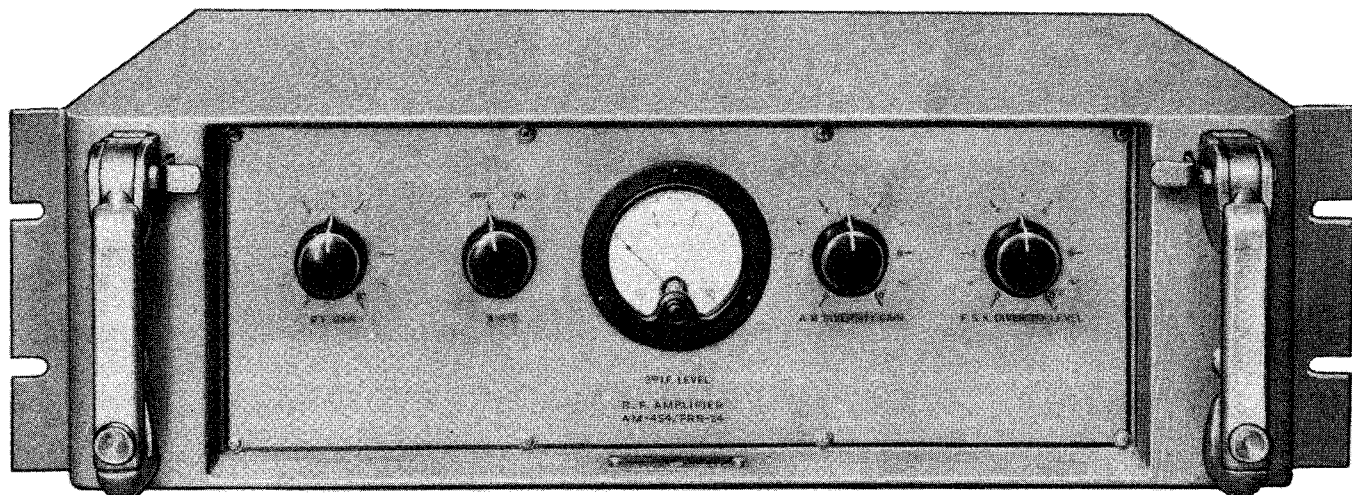

Figure 1-10. R.F. Amplifier AM-454/FRR-24
(5) R.F. AMPLIFIER AM-454/FRR-24. (See Figures 1-10 and 1-11).—The major portion of the receiver gain is provided by this unit without adding appreciably to the selectivity. This unit operates at 50 kilocycles and receives its input signal voltage from Filter Assembly F-99/FRR-24. The second intermediate frequency is produced at the output of the second heterodyne frequency converter stage located in the Frequency Converter CV-126/FRR-24. The desired 50-kilocycle selectivity characteristic is provided by the Filter Assembly F-99/FRR-24 which is located in the electrical circuit between the Frequency Converter CV-126/FRR-24 and R.F. Amplifier AM-454/FRR-24.